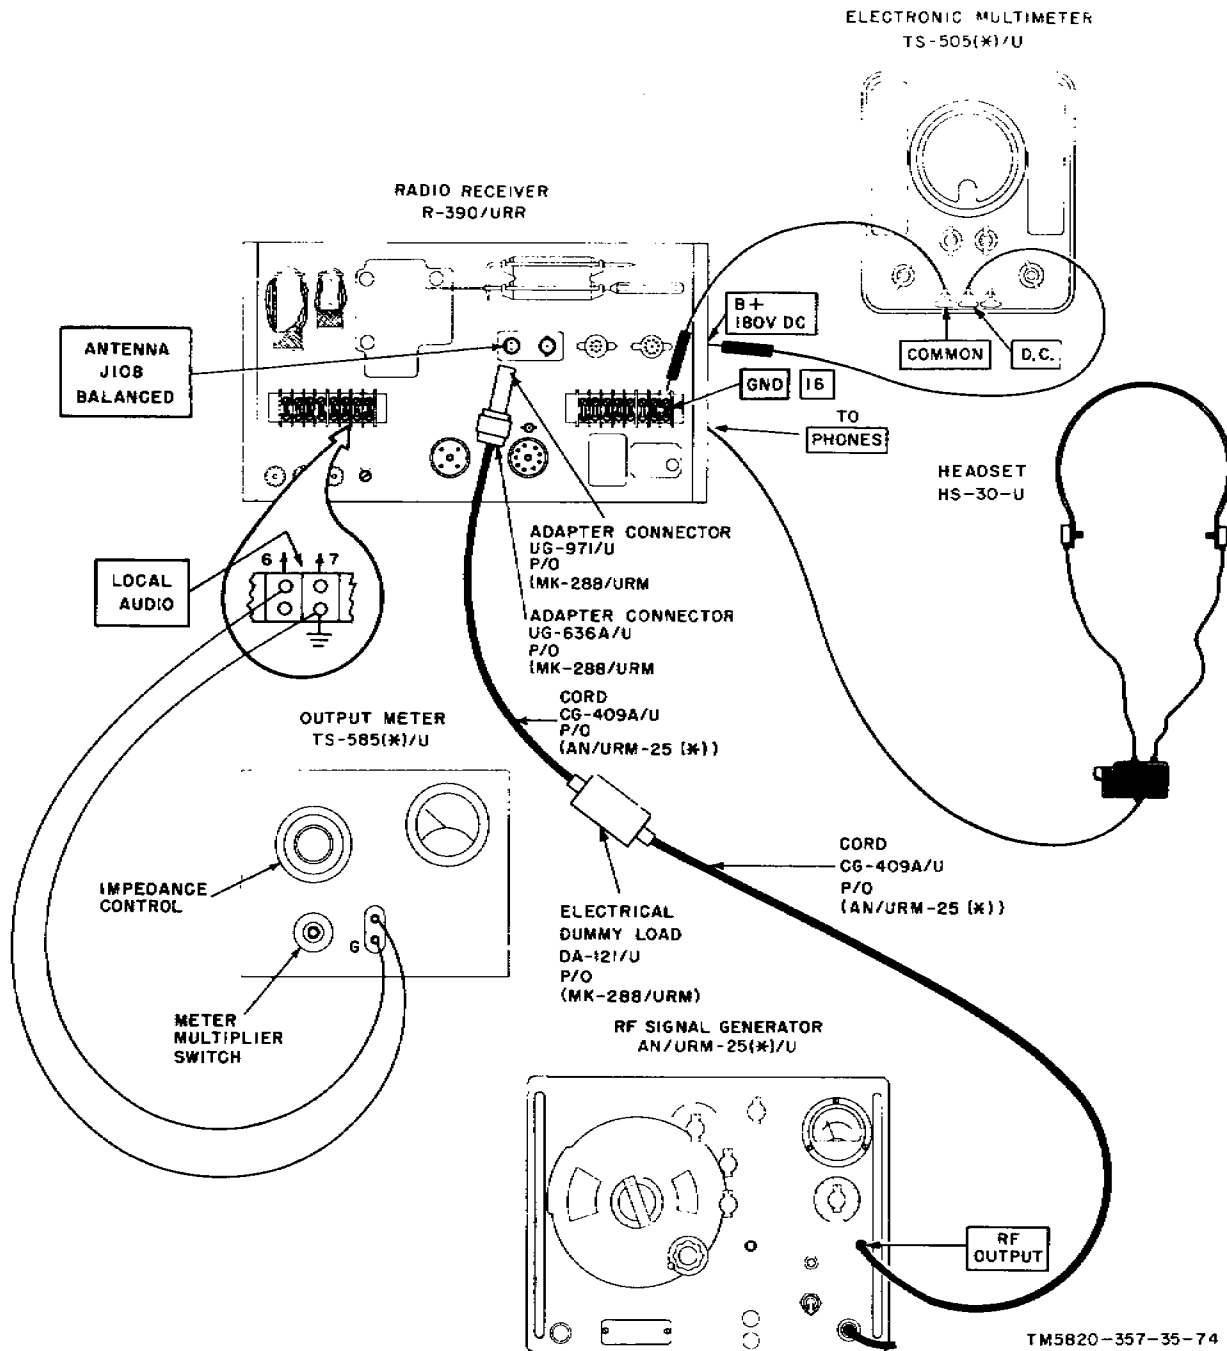

Figure 49. Sensitivity test setup.
(fig. 49)
b. Test Connections and Conditions. Connect the equipment as shown in figure 49. Do not connect the TS-505(*)/U until the test procedure calls for it,